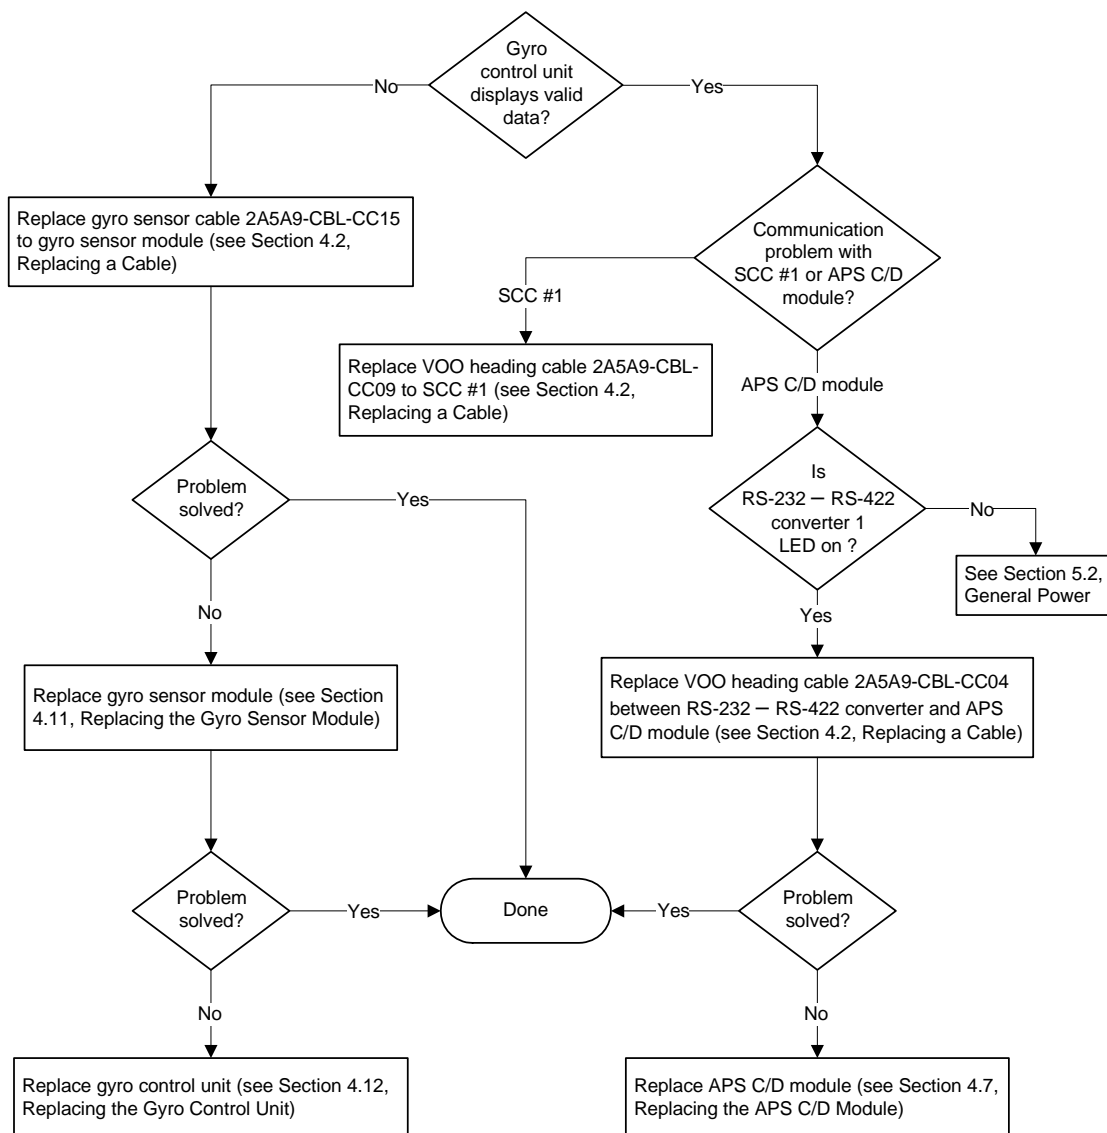

Figure 14 Troubleshooting – TDT VOO Heading Data Invalid with SCC #1 or APS C/D Module
1. Follow the troubleshooting steps in Figure 14.